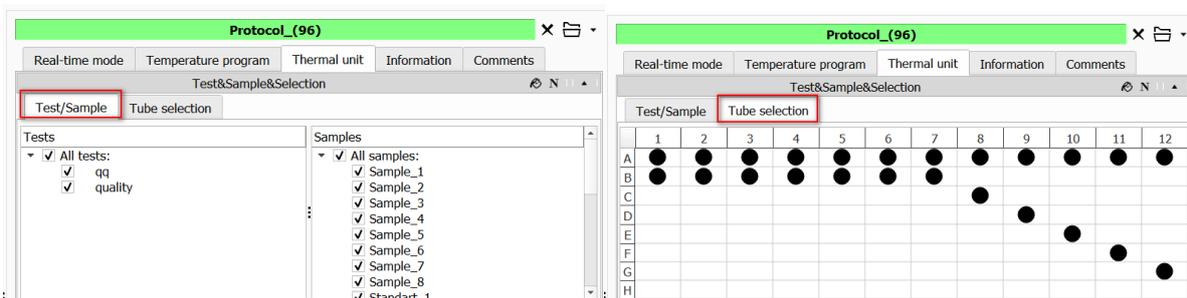

Figure 48 – The **Thermal unit** tab
- information about the scheduled tests and samples (fig. 48, a);
- color scheme of tubes (fig. 48, b).